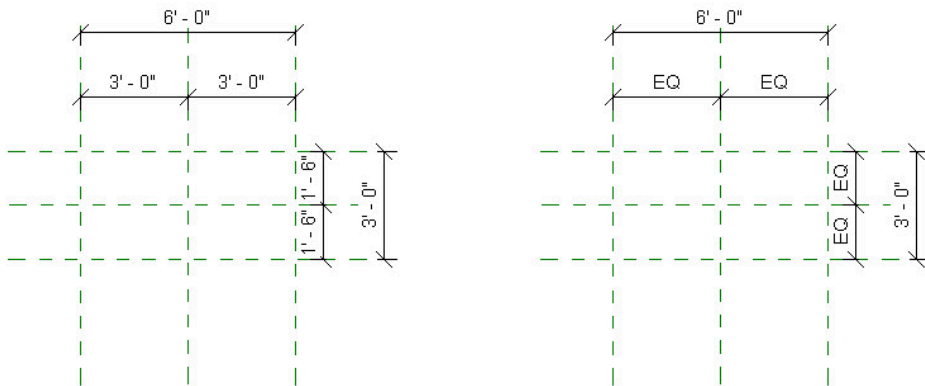

Figure 5.4 (left) Dimension strings placed and (right) enabled EQ for 3'0" and 1'6" dimension strings
connecting the Left-Center-Right and another connecting Left-Right as shown in Figure 5.4 (left). Do the same for Top-Center-Bottom and Top-Bottom as shown in Figure 5.4 (left)
10. Select the 3' 0" dimension string and enable equal dimensions by clicking on the EQ as shown in Figure 5.4 (right). Do the same for the 1' 6" dimension string.